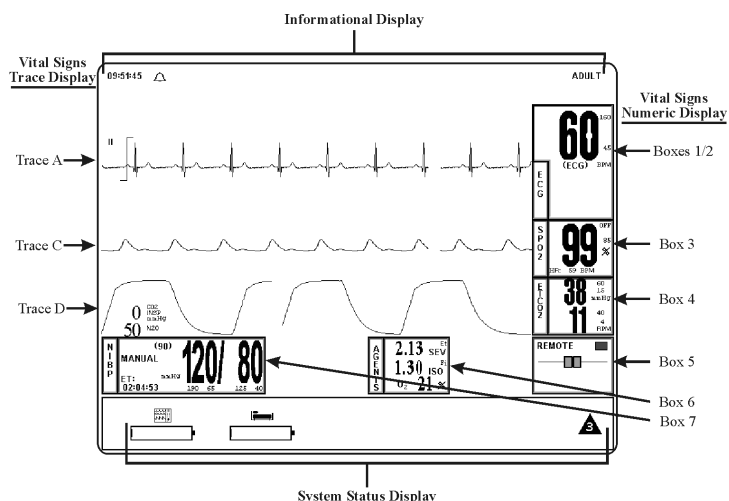

Figure 1-6. The Normal Screen
1.4.2 DCU Display. The DCU display screen (See Figure 1-6) displays four groups of data: 1) the Informational Display, 2) the Vital Signs Trace Display, 3) the Vital Signs Numeric Display and 4) the Status Display. The entire display screen, with its four different display groups, is called the “**Normal Screen.**” The four display areas are described below.